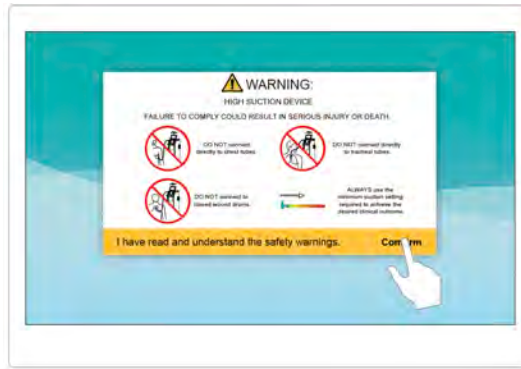

Figure 42 High Suction Device Warning
2. Read the WARNING message on the user interface display, then Tap OK key to access the CONTROL screen (Figure 42).